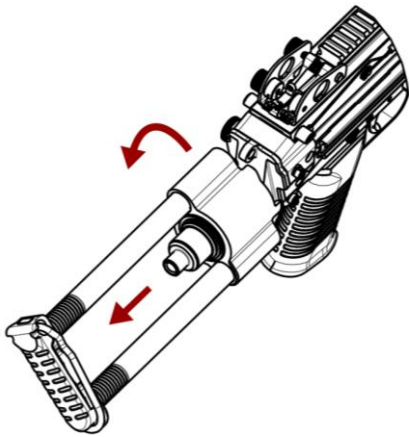

Figure 3
1. Keeping the rifle pointed in a safe direction, grab the buttstock frame at the buttplate and pull it to the rear about 1/8th inch. While holding it to the rear, rotate the buttstock frame counter-clockwise 90 degrees (as viewed from behind the rifle). See Figure 3.